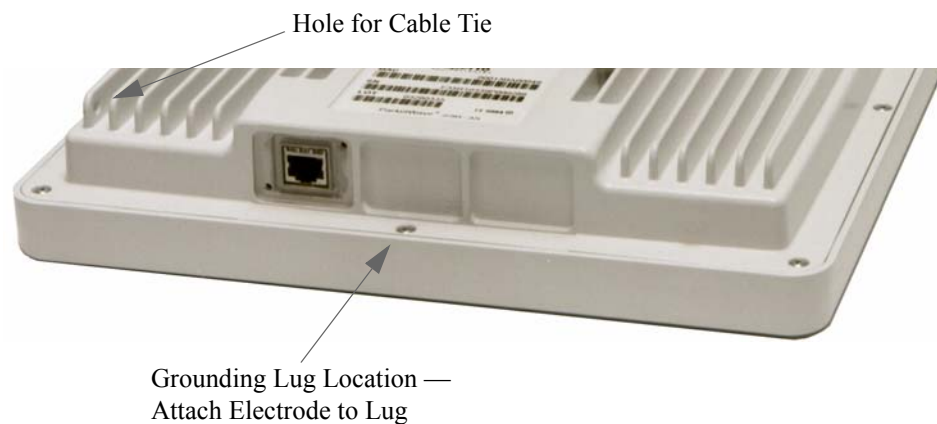

Figure 4-6 Location of Grounding Lug on Outdoor Unit
1. Locate the grounding lug on the ODU, as illustrated in Figure 4-6.
6. Dress the conductor using a cable tie through the hole illustrated in Figure 4-6, ensuring that the cable does not hang unsupported from the connector.